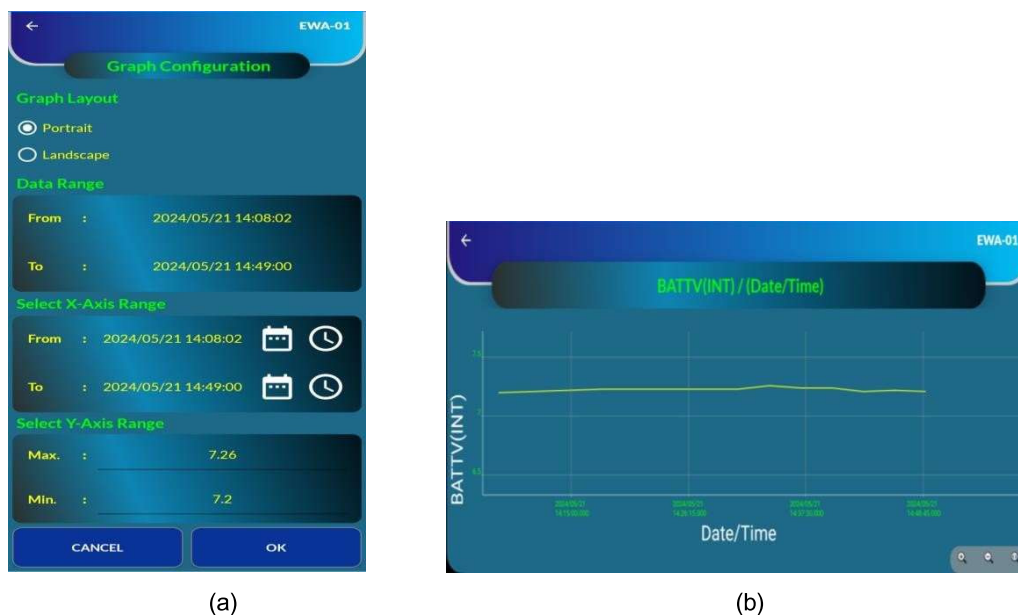

Figure 6-16 View data in graphical format
- Graph view of selected parameter is also available. Tap the graph button as shown in figure 6-15 (b). A window as shown in the figure 6-16 appears. To view the graph, select Graph Layout, Data Range, X-axis and Y-axis range and click on “OK” button.